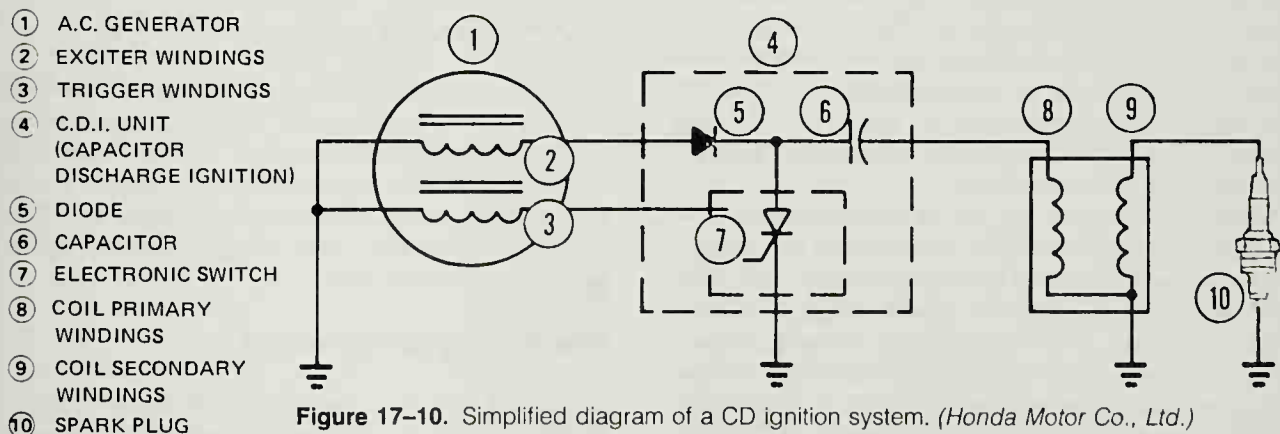

Figure 17-10. Simplified diagram of a CD ignition system. (Honda Motor Co., Ltd.)
A simplified diagram of a CD system is shown in Figure 17-10. Exciter windings (2) in the AC generator (1) produce the alternating current. (How the generator works is described in Unit 20.) Current passes through the diode (5) in the capacitor discharge ignition (CDI) unit (4) to charge the capacitor (6). Because the diode allows current to pass in only one direction, the capacitor is prevented from discharging back through the generator. Alternating current induced in the trigger windings (3) of the generator are used to open and close the electronic switch (7) in the CDI unit.